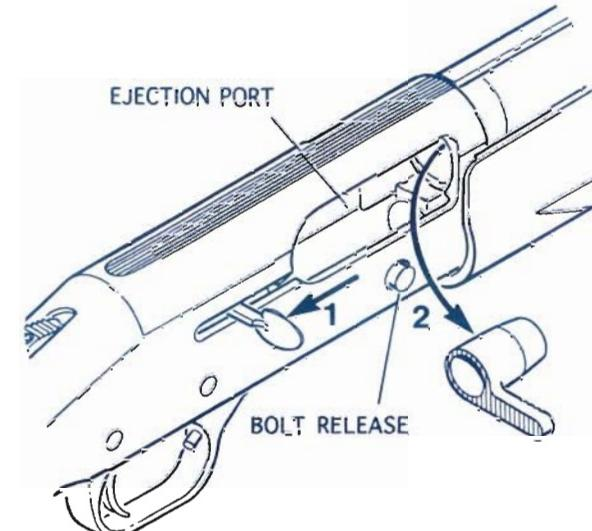

Figure 4
1. With the safety button fully rearward in the "ON" position, hold the shotgun in your left hand by the forearm, and grasp the operating handle with your right hand (Figure 4).
Keep fingers clear of operating handle and ejection port when closing action. (Figure 4)
With safety fully rearward in the "ON" (SAFE) position, and the shotgun pointed in a safe direction, press bolt release until action releases (Figure 4).
Open the action by pulling the operating handle completely rearward until it locks in the open position. (See "TO LOCK ACTION OPEN", Figure 4)
- !** Keep fingers clear of operating handle and ejection port when closing action (Figure 4).
3. With safety button fully rearward in the "ON" (SAFE) position, and the muzzle pointed in a safe direction, press bolt release until action releases (Figure 4).
3. While holding the elevator down with your thumb, press the bolt release (Figure 4). This will release one shell from the magazine tube under spring pressure.